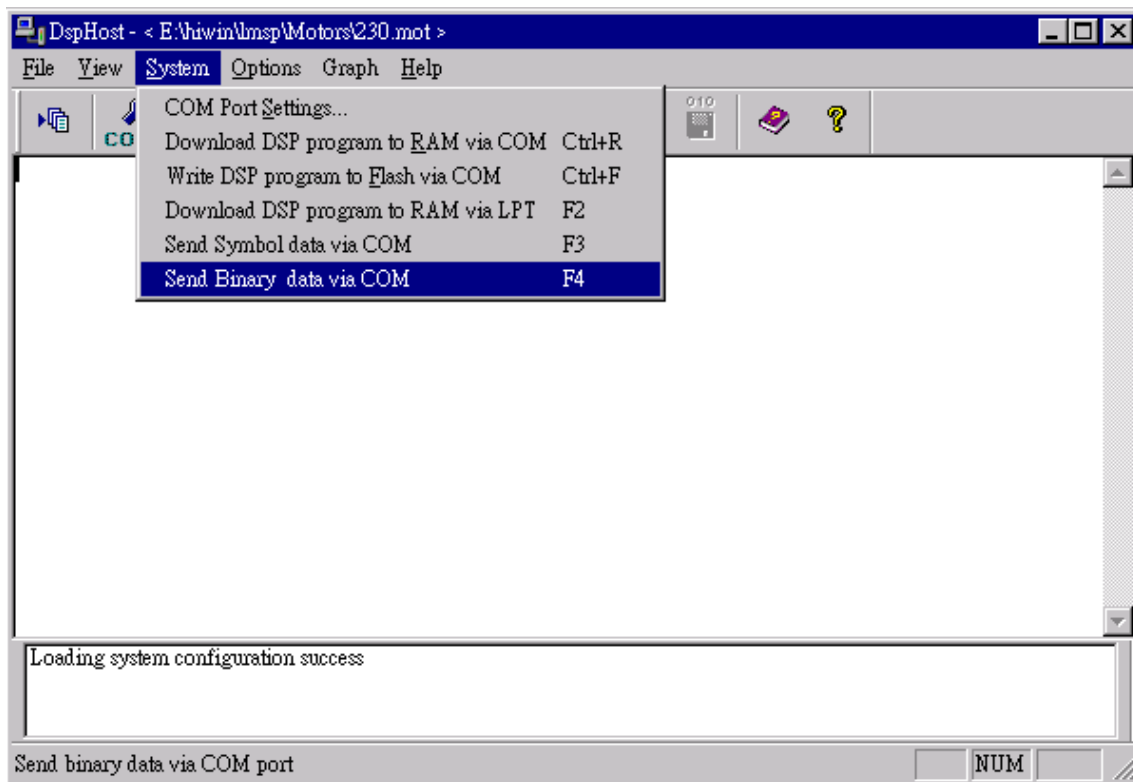

Figure 6.13 Download user's program file to DSP board
- (b) Click on "Send Binary data via COM" in "System" to download user's program file via RS-232 (Fig. 6.13).